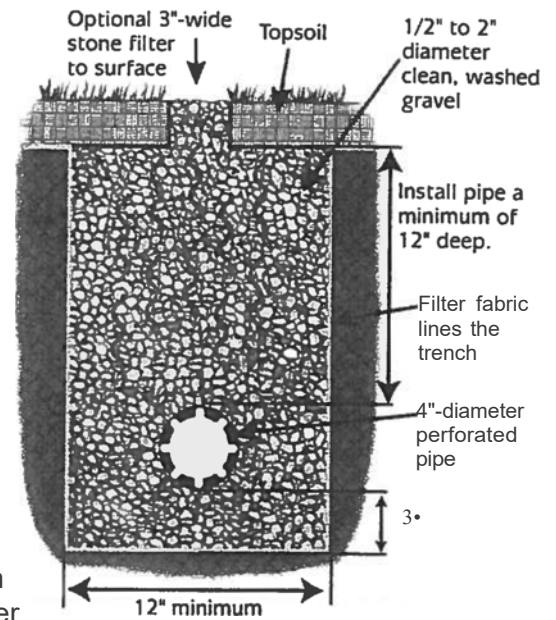

Figure 11
Simple drainage systems consist of trenches filled with gravel and perforated pipes (Figures 11&12). Depending on the conditions, drains may be augmented by the use of filter fabric. The effectiveness of this type of treatment is closely tied to three factors: (1) the existence of a suitable runoff point, (2) the depth of the trench and (3) the slope of the trench.